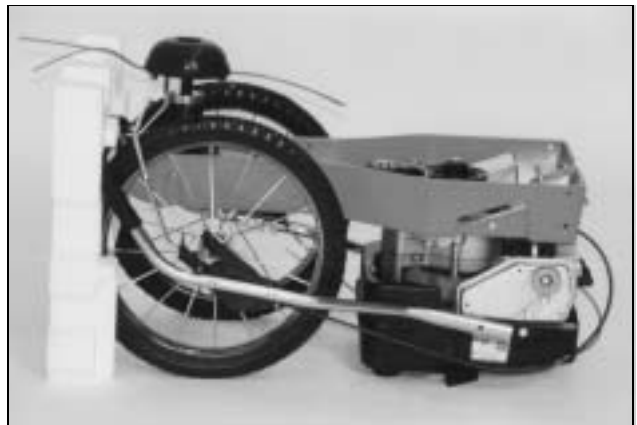

Figure 2
1. Turn the orange housing upside down to access the underside. Leave the front piece of Styrofoam in place (*Figure 2*).